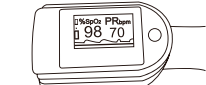

Figure 7 Put finger in position
1. The finger should be placed properly (see the attached illustration of this manual, Figure 7), or else it may cause an inaccurate measurement.
2. Open the clip as shown in Figure 7.